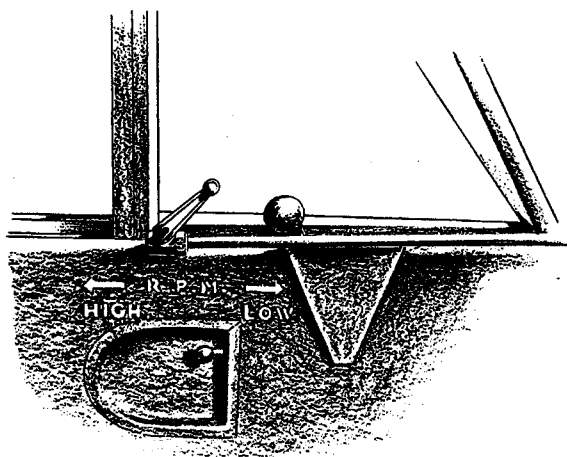

Figure 16—Pitch Change Handcrank
(1) The low-pitch position of this propeller is pre-set at the factory. A removable stop is set so that the engine will turn up its rated rpm on the ground. This gives the pilot the full rated horsepower of the engine for take-off. Removal of the low-pitch position stop will allow the engine to turn above rated rpm for critical performance.
(2) To increase the engine rpm, turn the hand crank counterclockwise. To decrease the rpm of the engine, turn the hand crank clockwise. (See figure 16.)